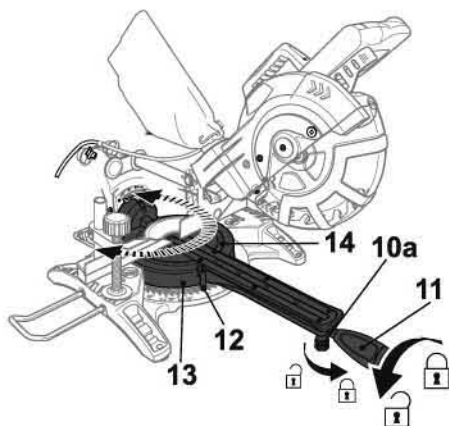

Fig. 39
1. Push the handle (1) downwards and release the locking bolt (23) from the locking position (Fig. 39, 40).